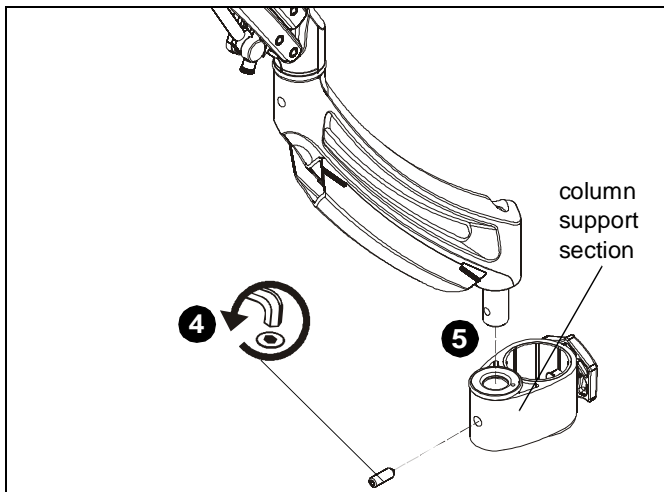

Figure 2
4. Remove set screw from column support section of K1 Series mount. Set aside set screw for re-use. (See Figure 2)
5. Pull column support section for K1 Series mount off of main assembly. (See Figure 2)